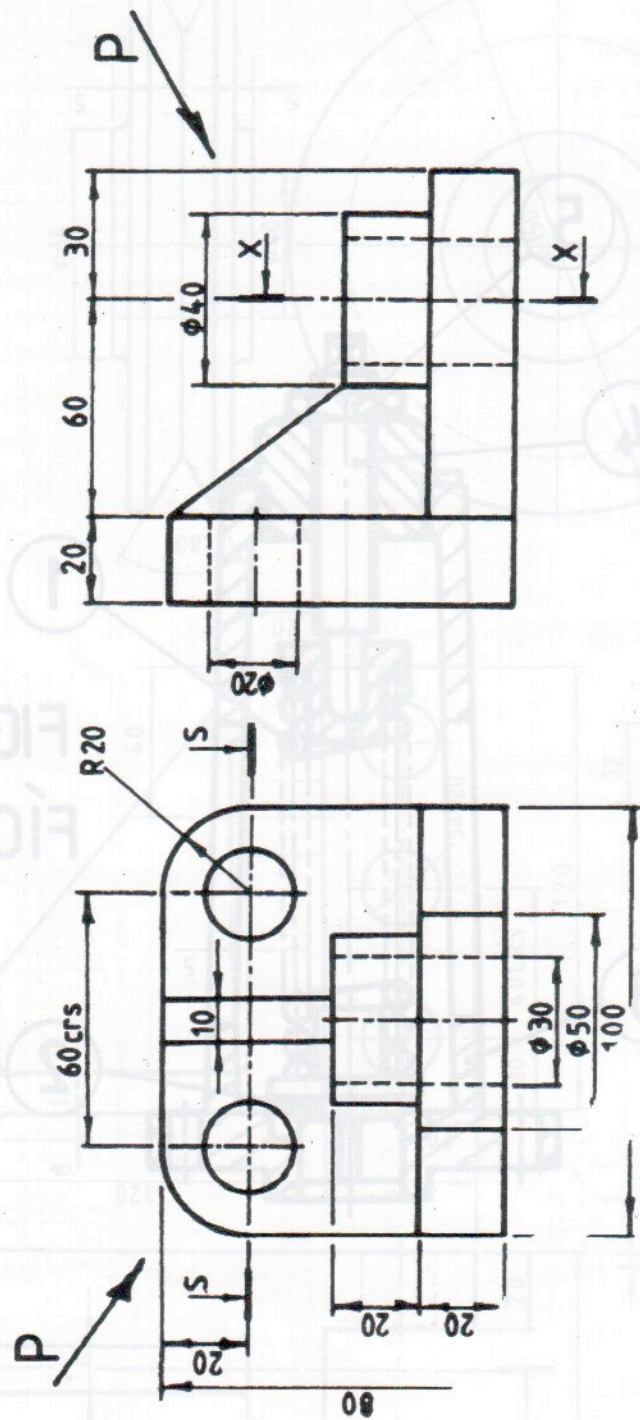

FIG. 6 FÍOR 6
- (a) Fig. 6 shows two views of a machine casting. Draw an isometric view of the casting, viewed in the direction of arrow P, with the portion above section plane SS removed and the portion in front of section plane XX removed.